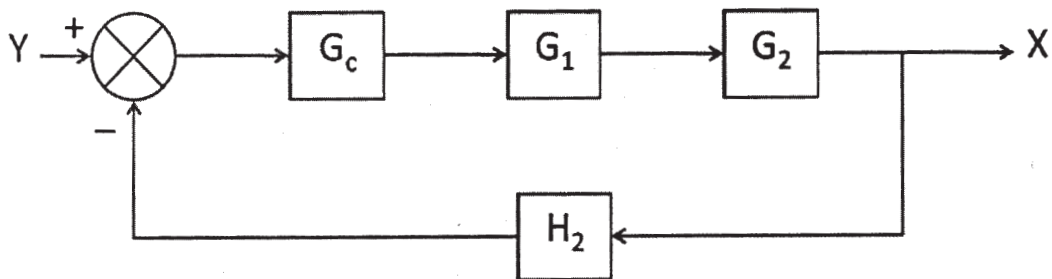

Figure 1
- b) Reduce the block diagram in Figure 1 and determine the transfer function, X/Y. [4]